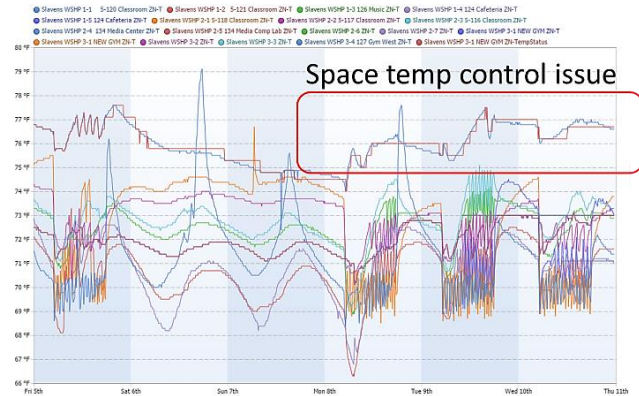

FIGURE 5 SPACE TEMPERATURE CONTROL ISSUE
FIGURE 5 displays temperature data from (18) heat pump zones, highlighting (2) zones that were not maintaining